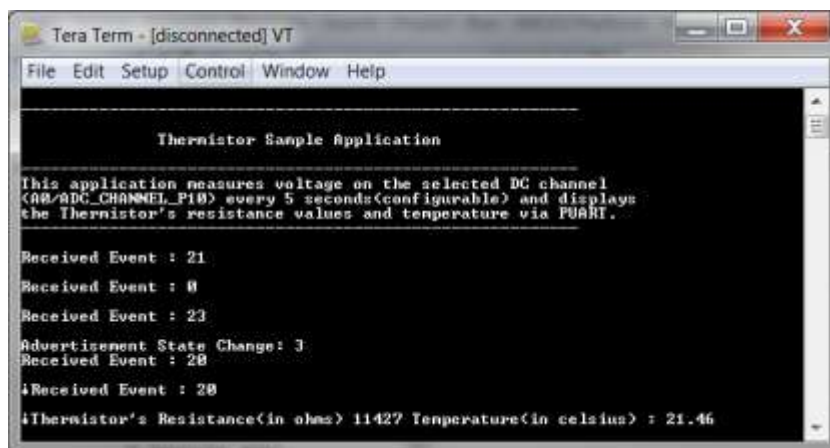

Figure 4-3. env_sensing_temp output
3. You will see the resistance of the thermistor and the equivalent temperature at an interval of five seconds as shown Figure 4-3.